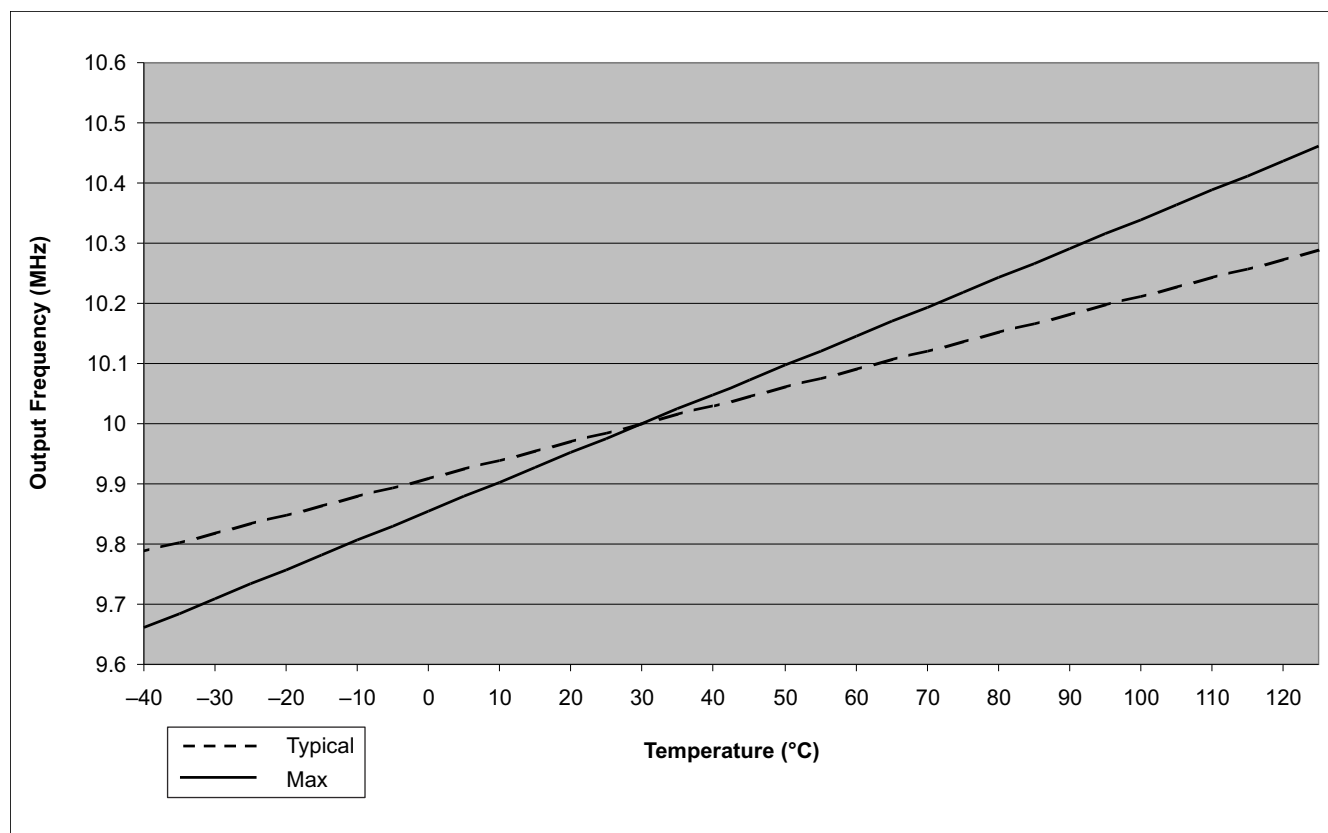

Figure 7-8. Zero-Pin Oscillator Frequency Movement With Temperature
- (1) Oscillator frequency will vary over temperature, see Figure 7-8. To compensate for oscillator temperature drift, see the Oscillator Compensation Guide and C2000Ware. .
- (2) Frequency range ensured only when VREG is enabled, $\overline{\text{VREGEN}} = V_{SS}$.
- (3) Output frequency of the internal oscillators follows the direction of both the temperature gradient and voltage (V_{DD}) gradient. For example: